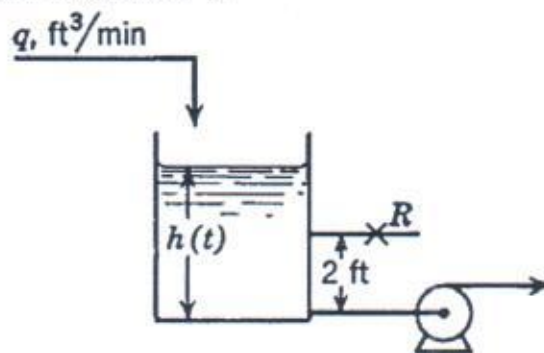

Figure Q.2.[a].: Liquid-level system
2. [a] Develop the transfer function  $H(s)/Q(s)$  for the liquid-level system shown in Figure Q.2.[a] when the tank level operates about the steady-state value of :